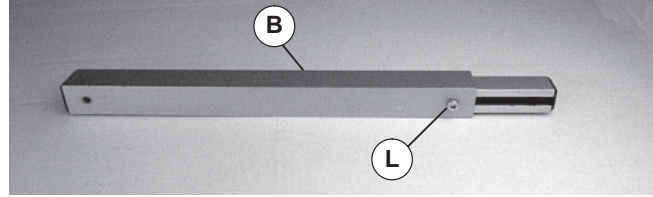

Figure 10
1. Loosen screw (Figure 10, item L) of adjustable bar (B).